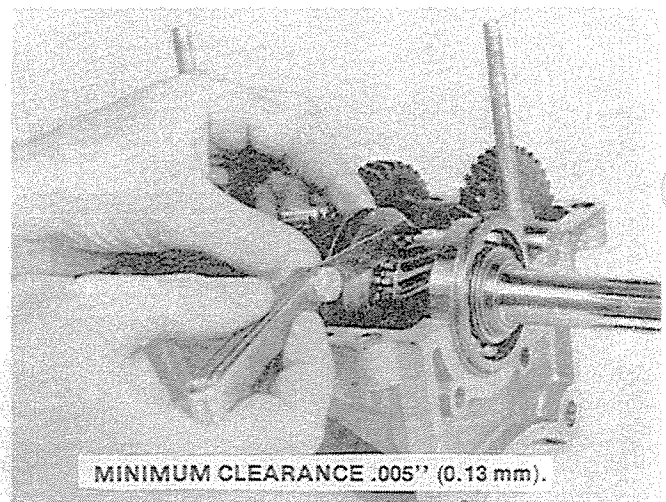

FIGURE 16
1. Check clearance between bronze synchronizer ring (both rings should be checked) and gear. Although transmission will function properly as long as there is clearance at this point, it is advisable to replace the synchronizer rings if the clearance is less than .005" (0.13 mm). Figure 16.